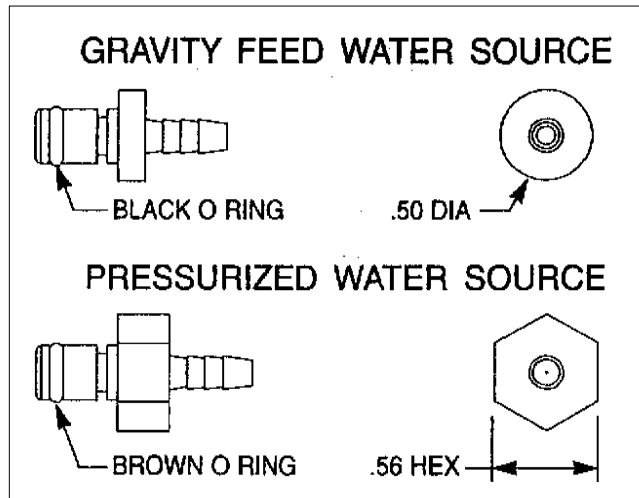

Figure 6- External Water Fittings for Gravity or Pressure Feed
1. With the round external water fitting connected to the Water Inlet Port on the back of the generator (see Figure 6), fill the external reservoir with deionized distilled water. The "external water insert" is supplied with a length of Tygon™ tubing for connection to the reservoir.
1. With the hexagonal external water fitting connected to the Water Inlet Port on the back of the generator (see Figure 6), connect the generator to the pressurized source and turn on the water supply. The "external water insert" is supplied with a length of Tygon™ tubing for connection to the water source.